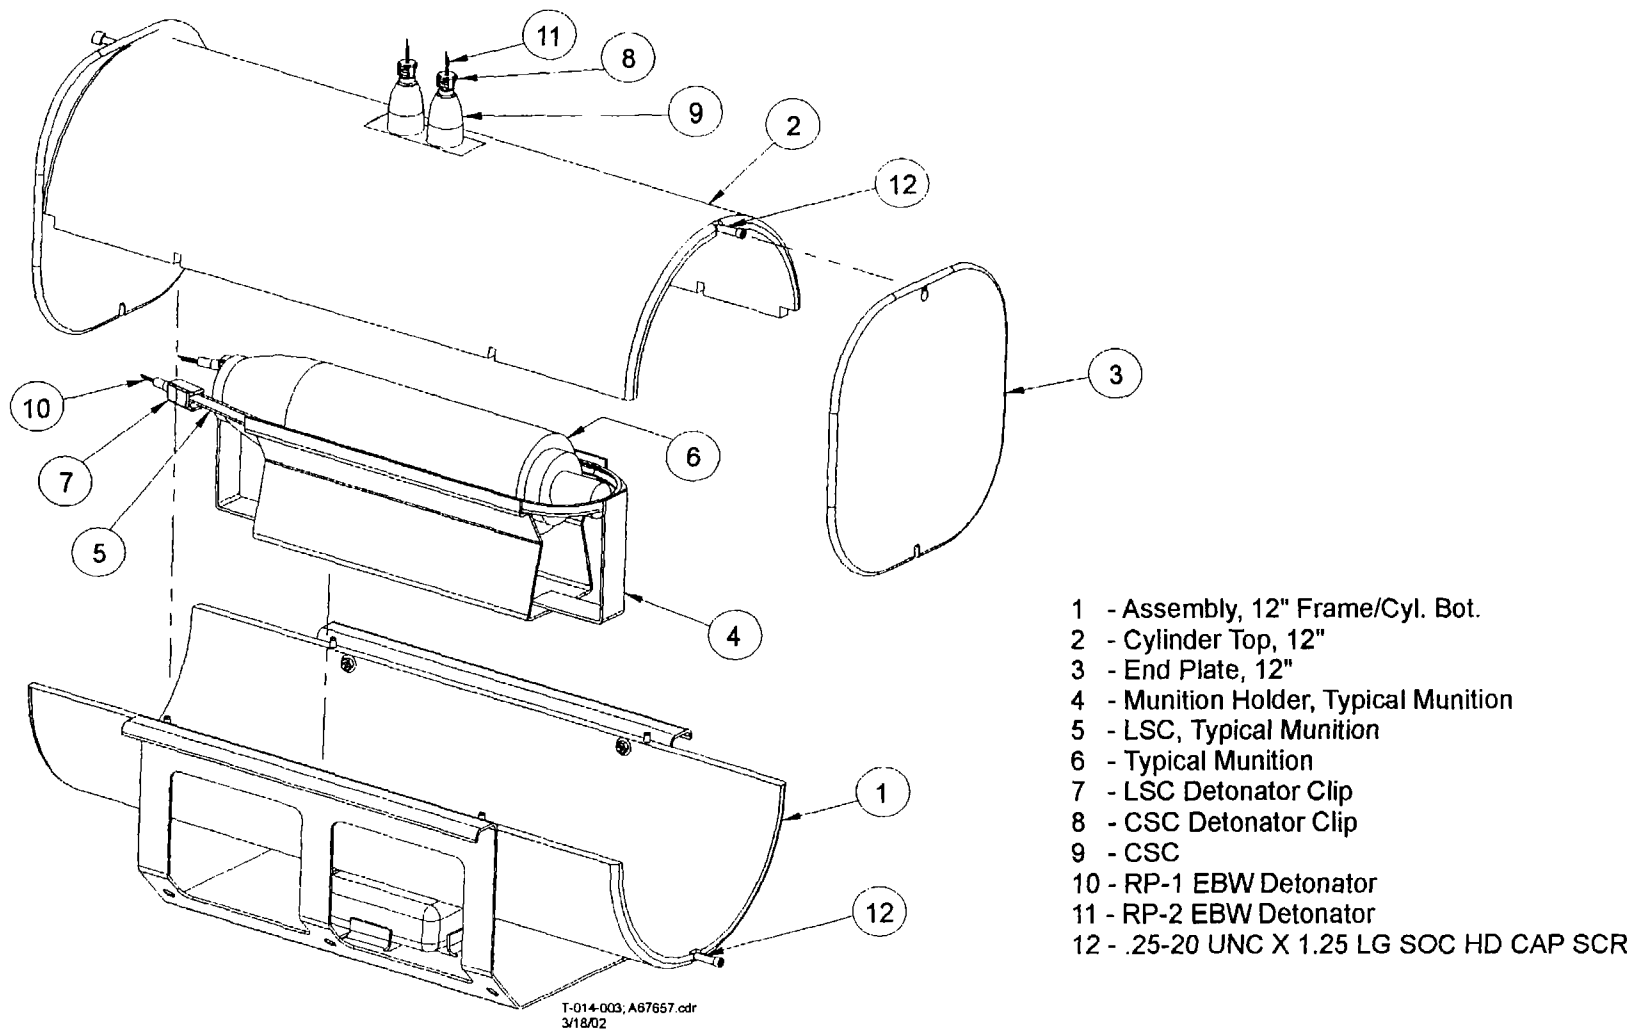

Figure 7-4. Typical Munition FSS
- 6.4 **PLACE** munition onto munition holder so it rests securely in holder with aft end of munition facing toward rear of CONTAINMENT VESSEL (Figure 7-4).